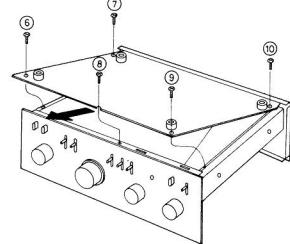

Fig. 2
2. Remove the five screws [fig. 2: ⑥ ~ ⑩] holding the bottom panel.
3. Because the rear edge of the bottom panel is inserted in the opening between the rear panel and the chassis, the bottom panel can be removed (in the direction shown by the arrow) by slightly lifting its front, as shown in figure 2.